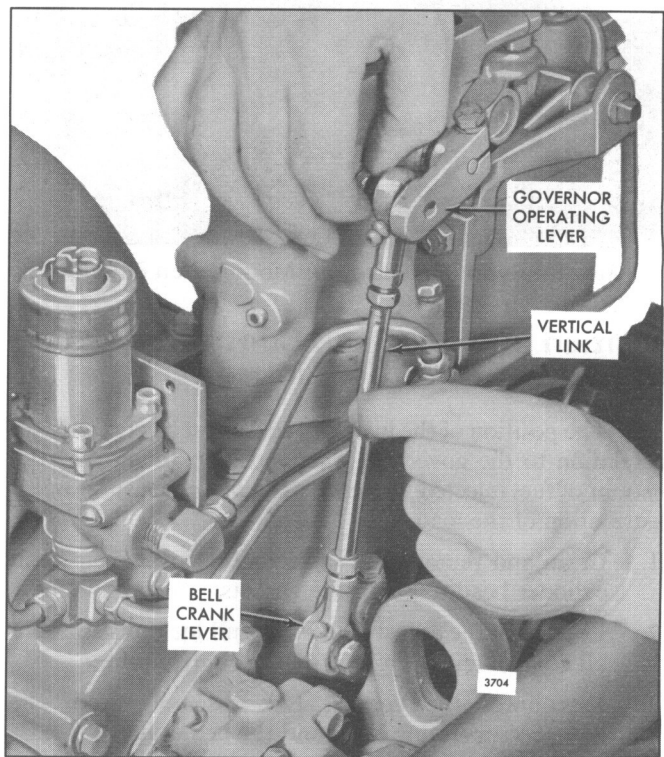

Fig. 5 – Adjusting Vertical Link
15. Adjust the length of the vertical link so that the bolt holes of the levers and the centers of the rod end bearings are lined up (Fig. 5).